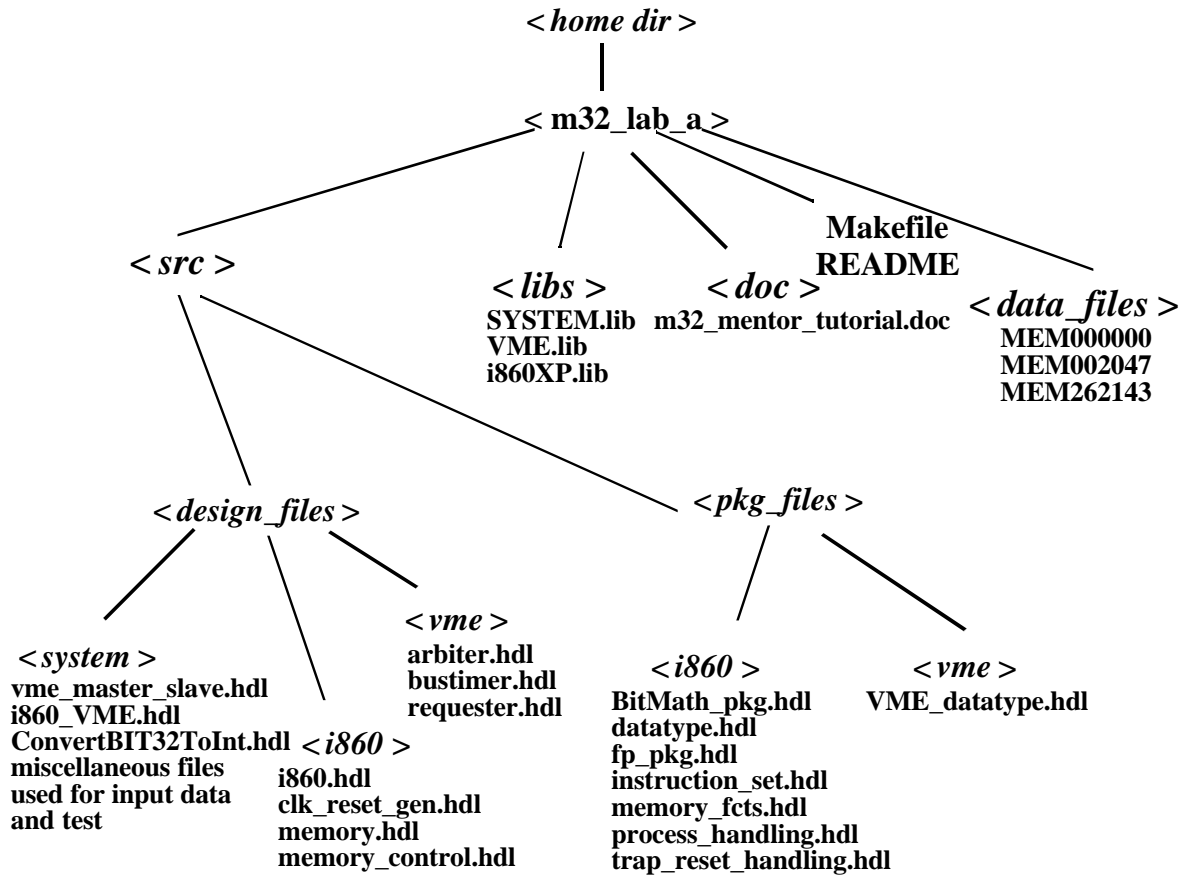

Figure 2: Laboratory File Structure
- 3.4. Using the *tar* utility in UNIX, copy the zipped file containing the component models, m32_lab_a.tar, to your home directory. untar the file, and look at the directory structure. It should have the form shown in the Figure 2. If this is not available on your machine, then copy the files directly from the CD-ROM.